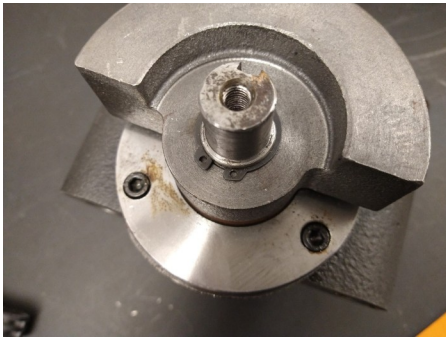

Fig. 15: Retaining ring.
13. Remove the retaining ring and eccentric block (Figs. 15 – 17).